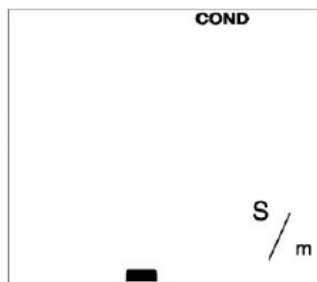

Figure 7
1. From Measurement mode, press the SET button until you're in COND Unit Setting Mode (fig. 7).